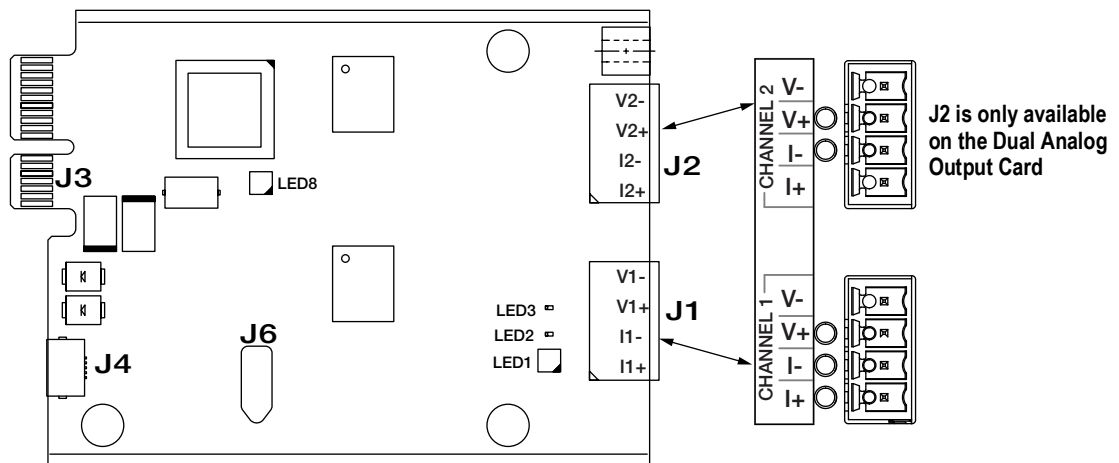

Figure 2. Analog Output Card (Dual Analog Output Card)
7. Make connections to the option card, see Figure 2.